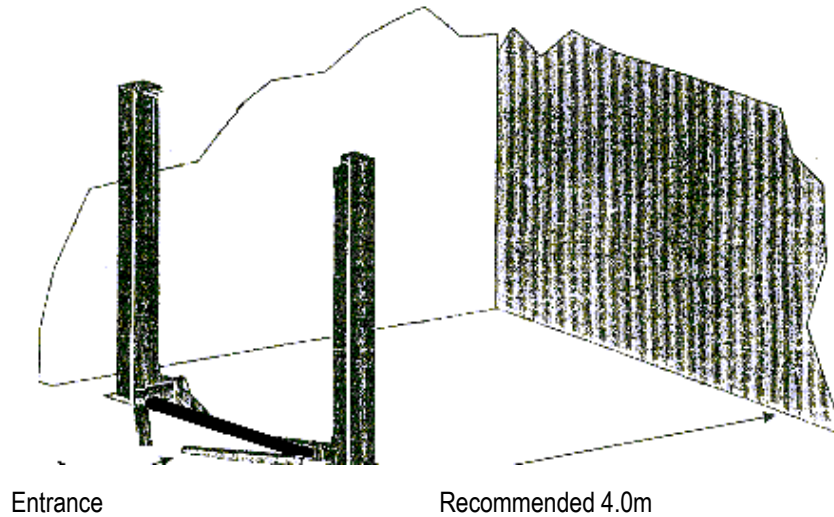

Fig. 5
- The front and back of the lift should be reserved with sufficient space to accommodate all the vehicles (Fig. 5). From the floor to the top, there should be not less than 3.8 meters space.